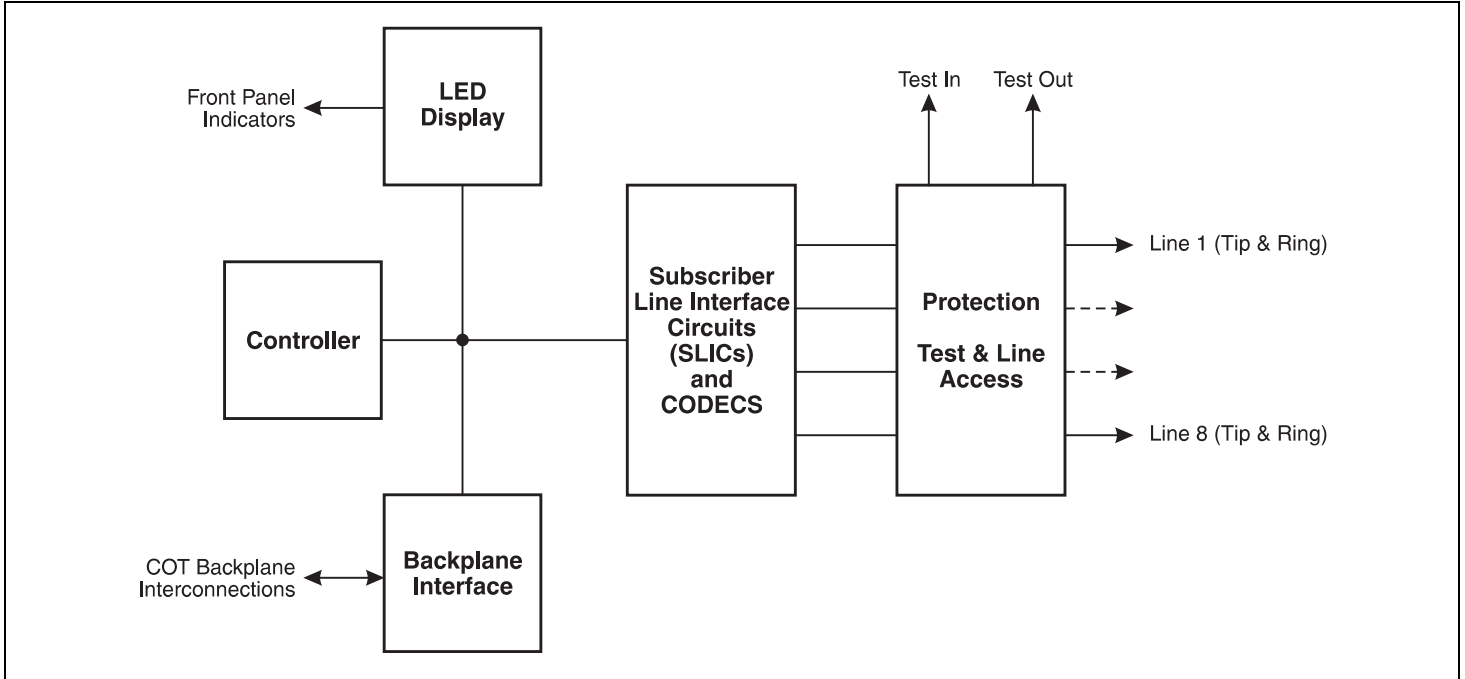

Figure 3. FLC-703 Block Diagram.
6.02 A block diagram of the FLC-703 Channel Unit is shown in Figure 3. One 8-Channel COT POTS Unit supports eight POTS interfaces.